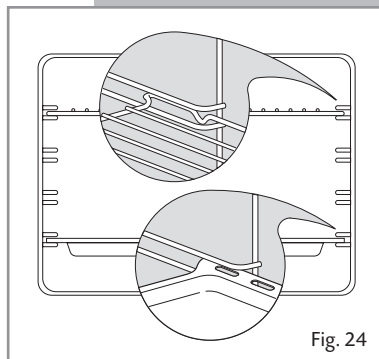

Fig. 24
- Slide the tray and rack into the runners (Fig. 24).